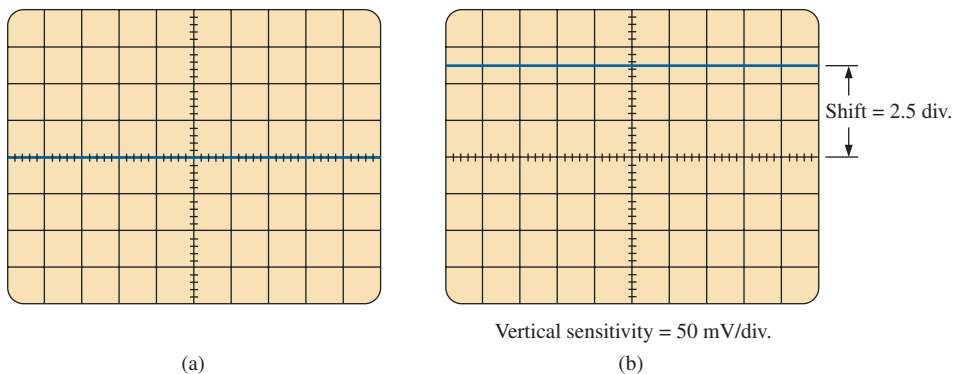

FIG. 13.57
1. First choose GND from the DC-GND-AC option list associated with each vertical channel. The GND option blocks any signal to which the oscilloscope probe may be connected from entering the oscilloscope and responds with just a horizontal line. Set the resulting line in the middle of the vertical axis on the horizontal axis, as shown in Fig. 13.57(a).
2. Apply the oscilloscope probe to the voltage to be measured (if not already connected), and switch to the DC option. If a dc voltage is present, the horizontal line shifts up or down, as demonstrated in Fig. 13.57(b). Multiplying the shift by the vertical sensitivity results in the dc voltage. An upward shift is a positive voltage (higher potential at the red or positive lead of the oscilloscope), while a downward shift is a negative voltage (lower potential at the red or positive lead of the oscilloscope).
For the waveform in Fig. 13.57(b),